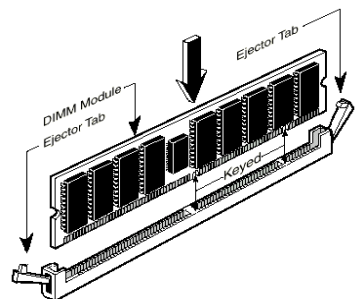

Figure 2-6. Memory module installation
Step 5. Insert the DIMM module into the expansion socket as shown in the illustration. Note how the module is keyed to the socket. You can refer to figure 2-6 for the details. *This ensures the DIMM module will be plugged into the socket in one way only.* Firmly press the DIMM module into the DIMM socket, making certain the module is completely seated in the DIMM socket.